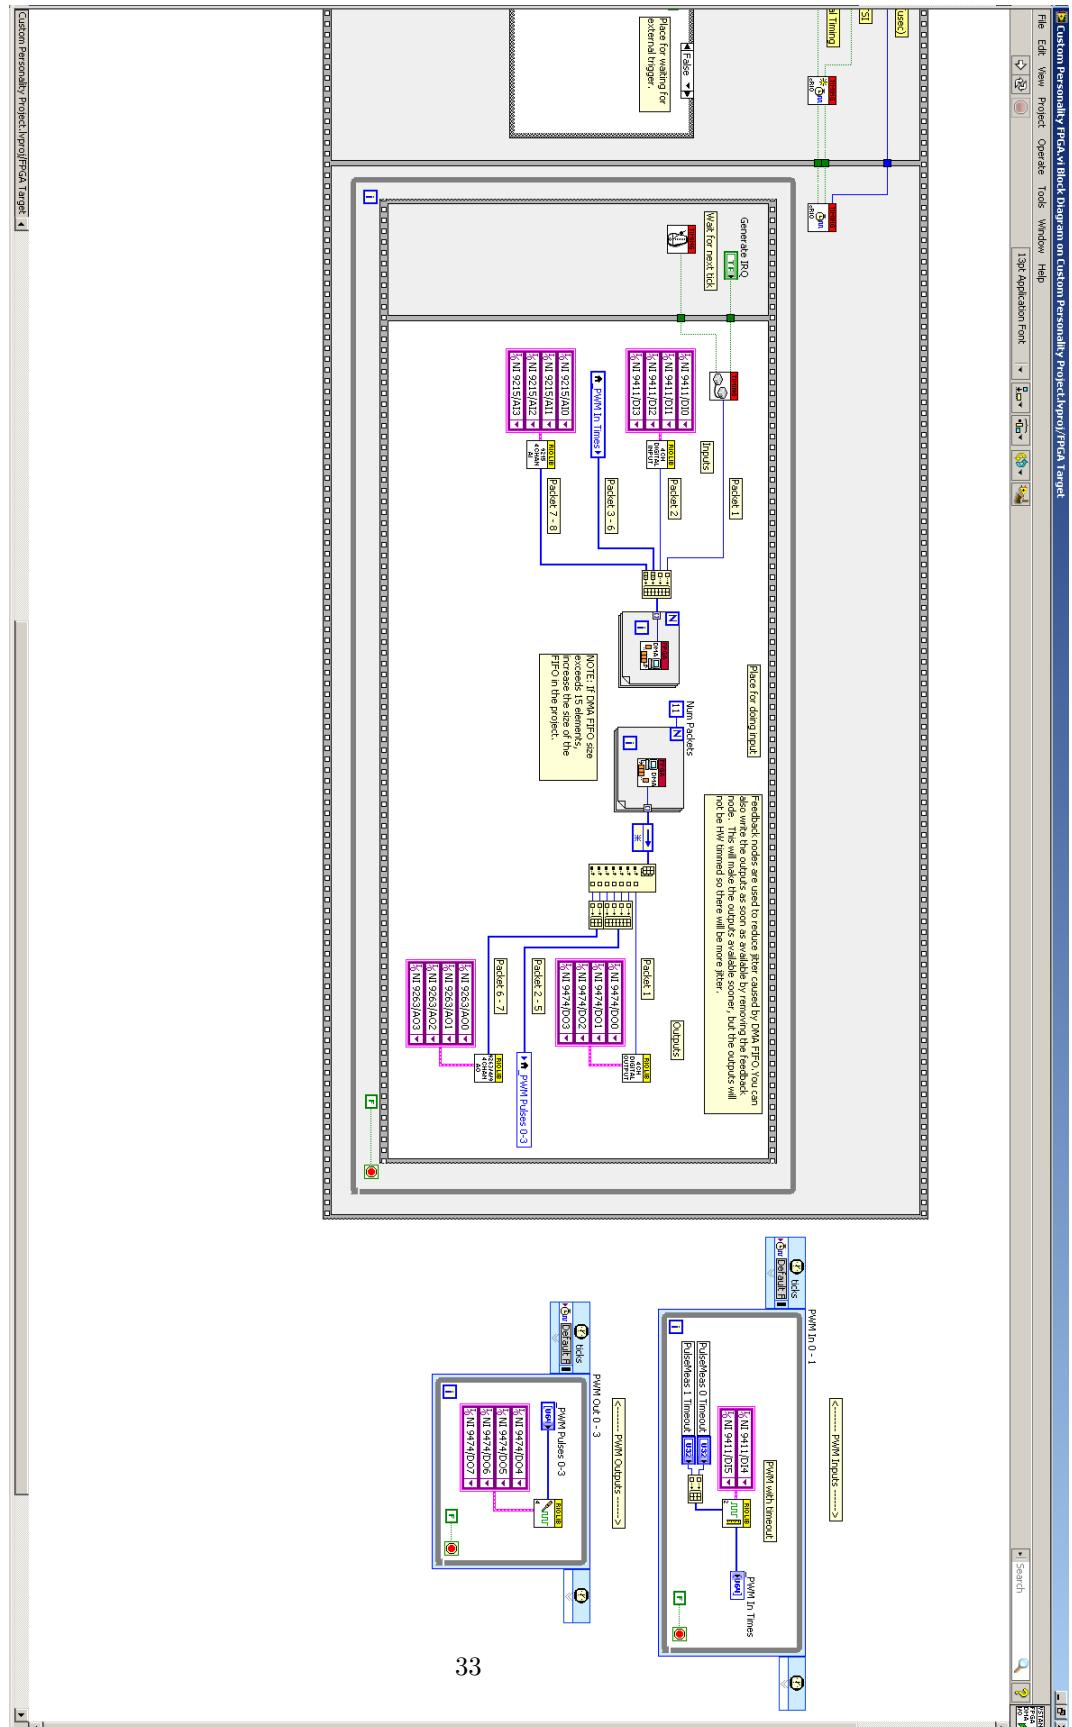
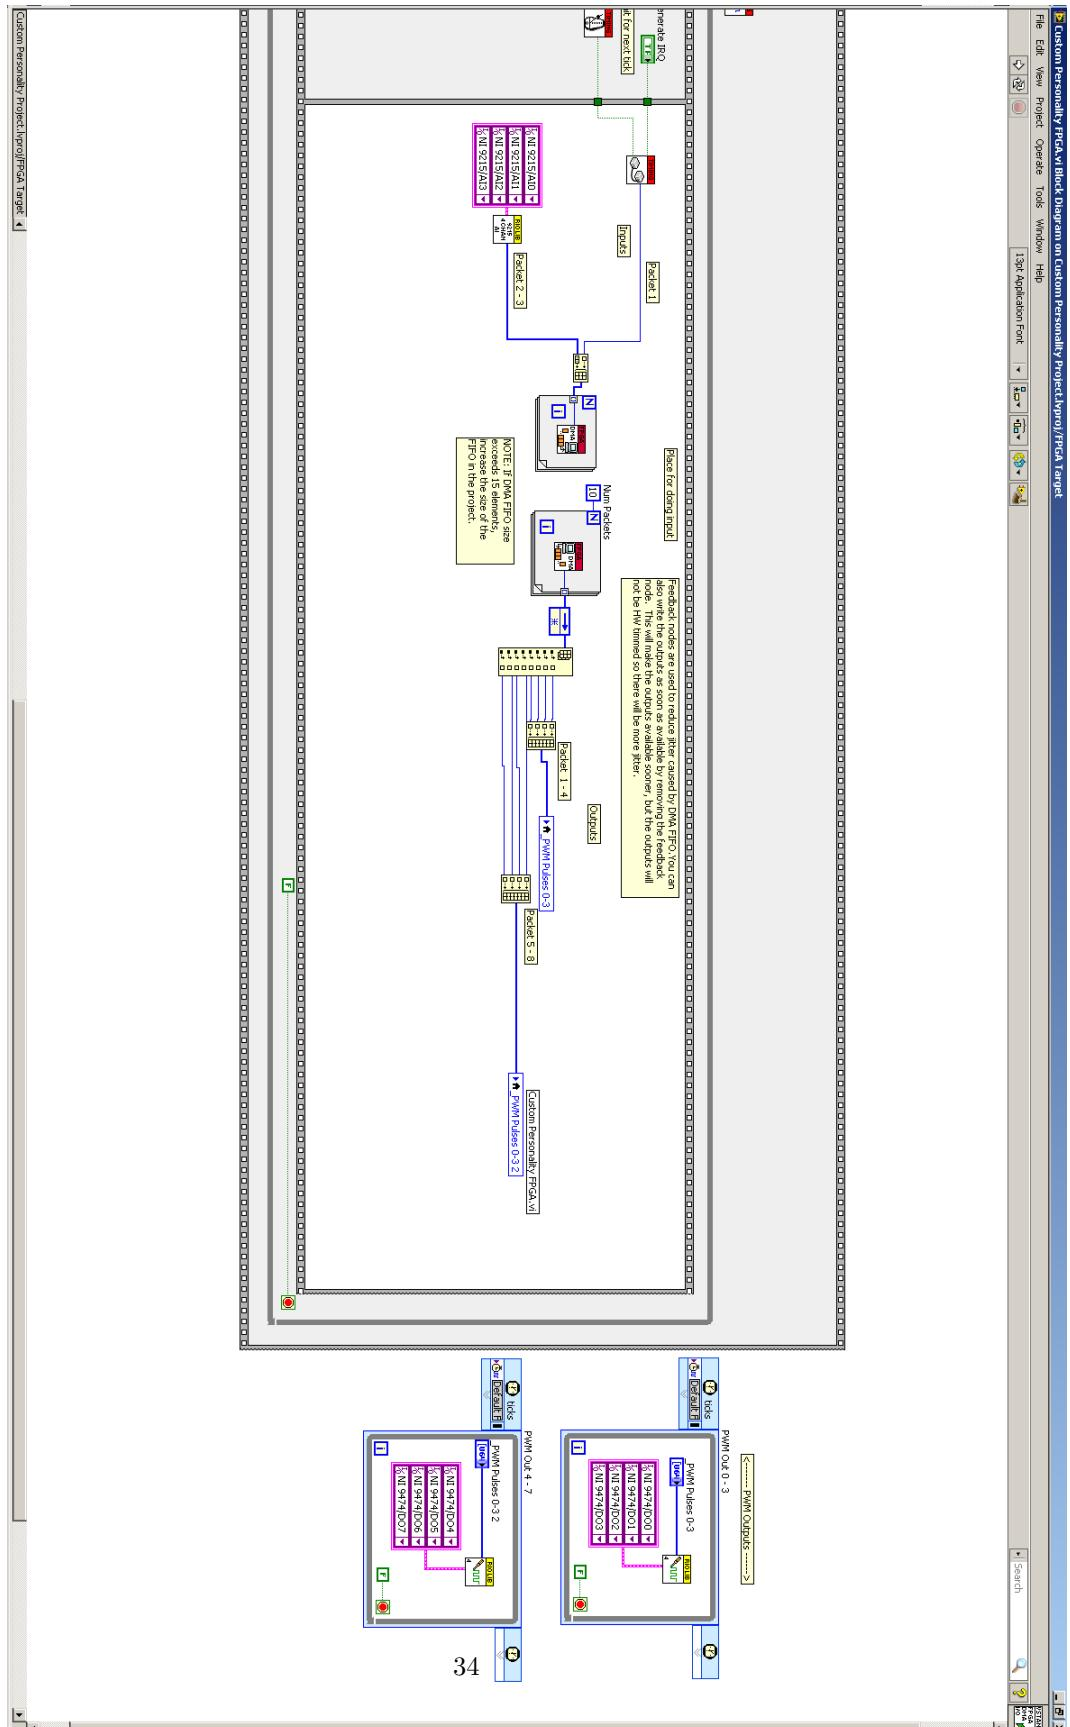

Figure A.11: Create Labview FPGA target and XML - 11
Figure A.12: Create Labview FPGA target and XML - 12
11. You should now see a block diagram similar to Figure A.11. You will now have to redesign this to look like Figure A.12. This will be valid for our system, if you have different I/O modules the block diagram need to reflect this.